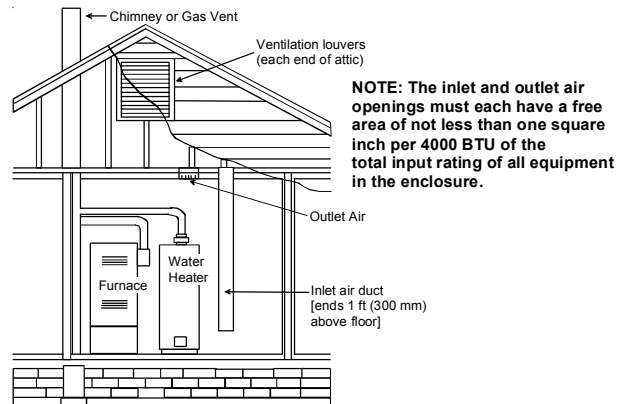

Figure A.9.3.3.1(1)(b) All Combustion Air From Outdoors through Ventiladed Attic.
- (2)* Where communicating with the outdoors through horizontal ducts, each opening shall have a minimum free area of 1 in.²/2000 Btu/hr (1100 min²/kW) of total input rating of all appliances in the enclosure. [See Figure A.9.3.3.1(2).]